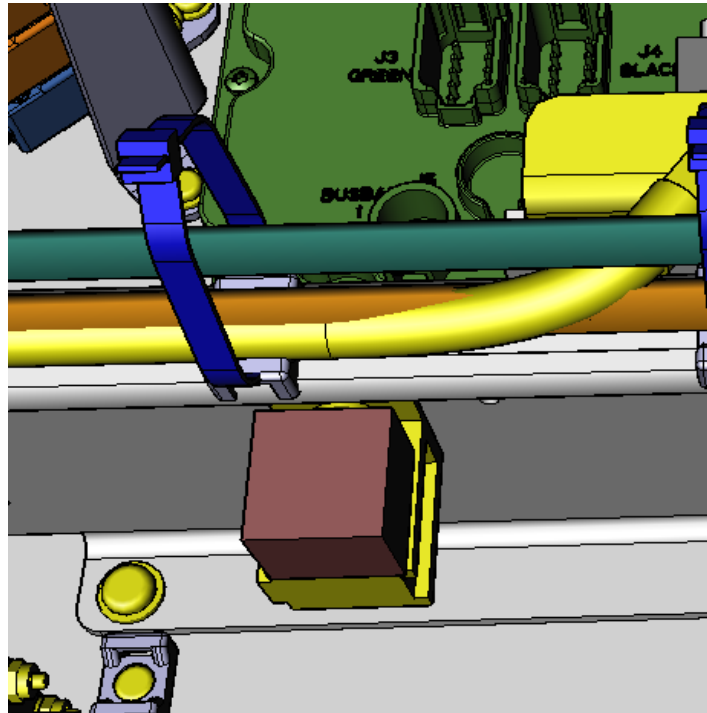

Figure 3: Relay Installation
6. To install the AUTO NTRL RLY begin by installing the BASE-RELAY SOCKET (P/N: 001325) on the breaker panel as shown in Figure 3. Mount the base using SCREW MACHINE NO 10 PN HD (P/N: 14S00006) and WASHER FLAT SS 10 (P/N: 50W00000). Then install the RELAY 24V SPDT (P/N: 106614) on to the base.